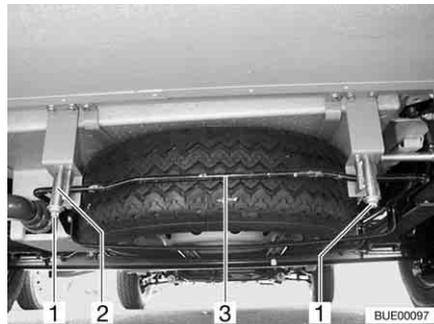

Fig. 296 Spare wheel support (basket)
- Loosen the nuts (Fig. 296,1) on the right and left rear hooks (Fig. 296,2) of the spare wheel support.
- Pull the bar (Fig. 296,3) slightly upwards. At the same time, pull down the hooks and unhook the bar.